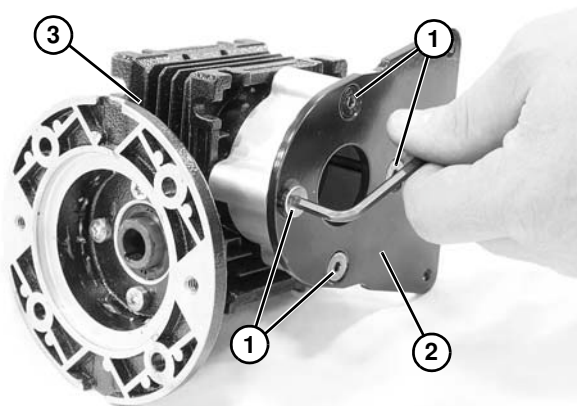

Figure 31
6. Remove flat screws (**Figure 31, item 1**), mounting plate (**Figure 31, item 2**), and stand-off extrusion (**Figure 31, item 3**) from gear reducer.